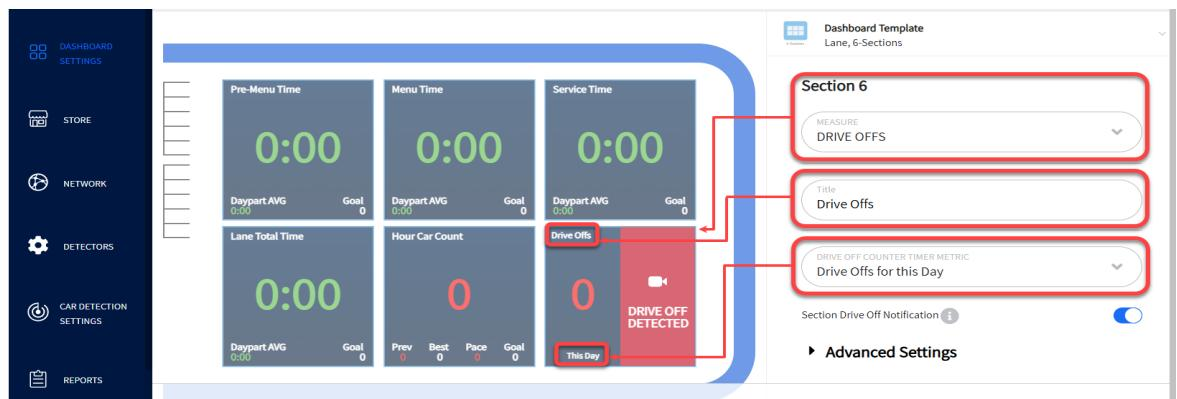
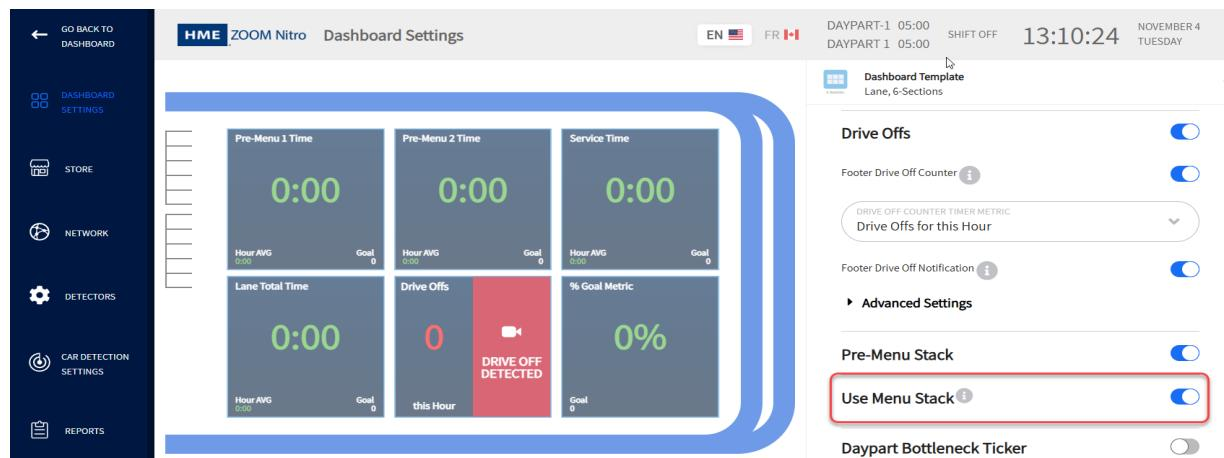
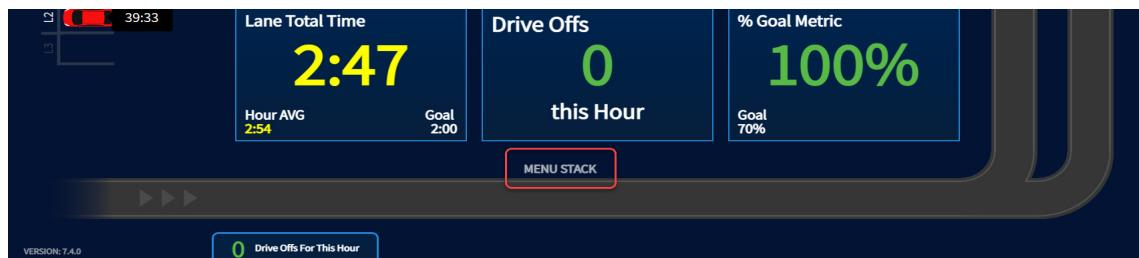

Fig. 3.9
Fig. 3.13
Fig. 3.14
The above information can also be displayed in a Data Section. Click on a Data Section (Section 6 is the example used in Fig. 3.9). From the drop-down list of the **MEASURE** field, select DRIVE OFFS. Label this Data Section in the Title field ("Drive Offs" is used in this example), and then select the time period from the DRIVE OFF COUNTER TIMER METRIC field ("This Day" is used in this example). See Fig. 3.9.
When Use Menu Stack is enabled (Fig. 3.13), it combines Pre-Menu Stack and Pre-Menu into a single label called **Menu Stack** (see Fig. 3.14). This toggle is tied to the Pre-Menu Stack toggle above it, so if you disable Pre-Menu Stack, the Menu Stack (if enabled) is also disabled, and if you enable Use Menu Stack, it will also enable the Pre-Menu Stack (if disabled).
DAYPART/SHIFT OPTION Show DP with Time	DAYPART/SHIFT OPTION: Different combinations of Daypart (DP), Shift, and Time can be selected here to be displayed at the top of your Dashboard screen (see Fig. 3.13).
MEASURE - drop-down list: Time: This is the elapsed time for an event happening, such as a vehicle being detected at a detection point or the Lane Total for a Lane. % Goal: Shows the percentage of vehicles over/under the goal at the selected Event. Car Count: The total number of vehicles that have gone through the drive-thru lane and departed from the last detection point. If your store uses a Dual Lane layout, CAR COUNT will also offer you LANE SELECTION options. You can choose a car count for either lane or a combined count for both lanes. Cars in Lane: This is the total number of vehicles in the lane that have arrived at or passed the first detection point but have not yet departed the last detection point of the lane. If your store uses a Dual Lane layout, CARS IN LANE will also offer you LANE SELECTION options. You can choose cars in lane for either lane or a combined count for both lanes. Disastrous Orders: This is the number of vehicles or orders that have exceeded the user-determined Disastrous Orders Goal. For example, if speed goal D has the longest time value of goals A, B, C, and D (where A = 30, B = 60, C = 90, D = 120), then any vehicle or order exceeding 120 is considered a Disastrous Order. Drive Offs (if applicable): These are vehicles in the Pre-Menu Stack/Pre-Menu zone which drive off before ordering. See details on page 14, Fig. 3.9 and 3.10. This option is only available when using Nitro Vision AI. Average Time: The sum of the amount of time, for each vehicle departure within the user-selected periods, divided by the number of vehicle departures. Drive Thru-Put: Calculates the number of cars each hour the drive-thru can serve based on the slowest detection point average and the time remaining in the hour. Period Bottleneck: This shows the bottleneck event for the set time period (Half Hour, Hour, Daypart, Day). Current Bottleneck: This tells you what event/detection point is causing the current bottleneck. Based on the set number of vehicles in the Rolling Avg. settings. Leaderboard Ranking: This shows your store's ranking based on the number of stores it is monitored against. For example, a "1 of 5" ranking means you are currently in first place out of five stores monitored. Leaderboard List: This shows a list of all the stores monitored beginning with the top ranked store. In the Leaderboard Ranking example (1 of 5), your store will be the first line on the displayed list (see Fig. 3.21). Lead Car Order Summary: This gives you an overview of the order for the lead vehicle in your drive-thru lane. (Only visible when POS is enabled.) Menu Stack Car Count: This is the total number of vehicles in the combined Pre-Menu and Pre-Menu stack (Menu Stack must be enabled on the dashboard to receive an accurate count, see Fig. 3.13).
**Menu Stack Car Count:** This is the total number of vehicles in the combined Pre-Menu and Pre-Menu stack (Menu Stack must be enabled on the dashboard to receive an accurate count, see Fig. 3.13).